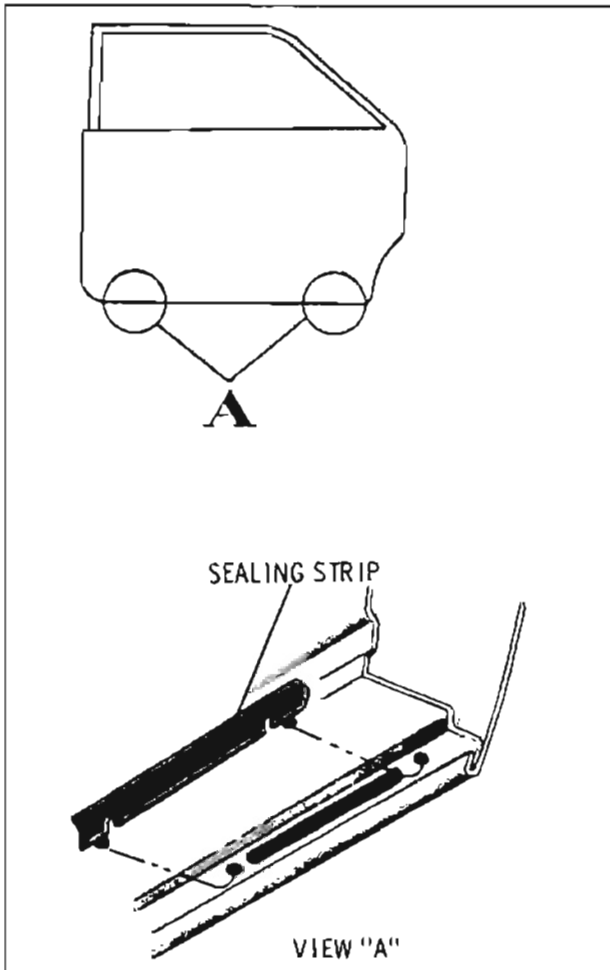

Fig. 16-10 Drain Hole Sealing Strip
1. With a putty knife, carefully pry out retaining plugs. (Fig. 16-10)